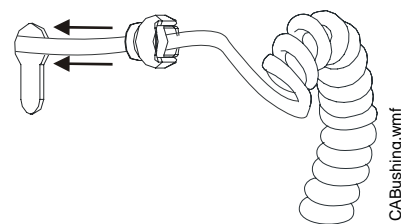

Figure 3 Attaching the Bushing
3. Snap the protective bushing (P/N 43268) around the microphone cord and feed the connector through the keyhole. Push the bushing into place until it is firmly seated (see Figure 3).